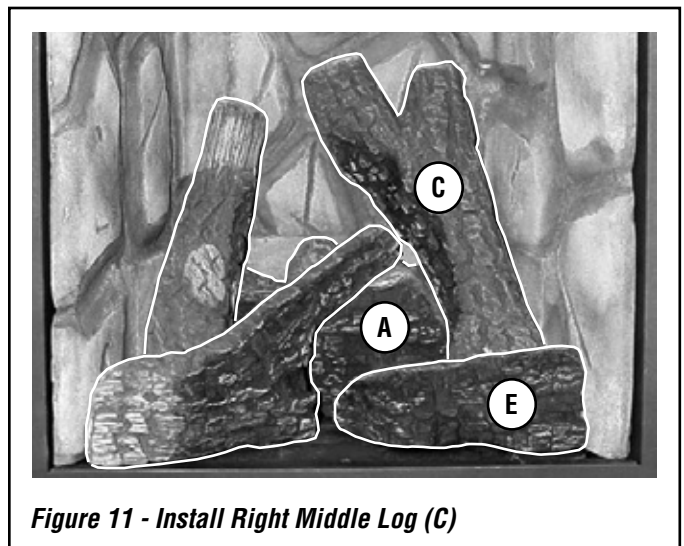

Figure 11 - Install Right Middle Log (C)
5. Place the right middle log (C) as shown in Figure 11. Position log C behind Log E and resting on the "flat" on Log A.